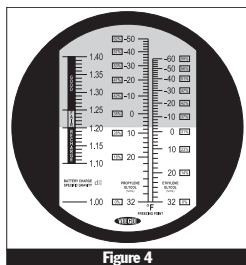
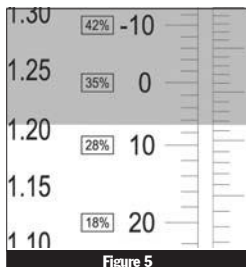

Figure 4
Figure 5
- 4 When the refractometer scale is viewed through the eyepiece, the upper field of view will be seen as blue and the lower field will be seen as white (Figure 4). The reading is taken at the point where the boundary line of the blue and white fields crosses the scale (Figure 5). The value is Battery Charge Level (LEFT SCALE) / the Freezing Point of Propylene Glycol (CENTER SCALE) / the Freezing Point of Ethylene Glycol (RIGHT SCALE) of the sample.